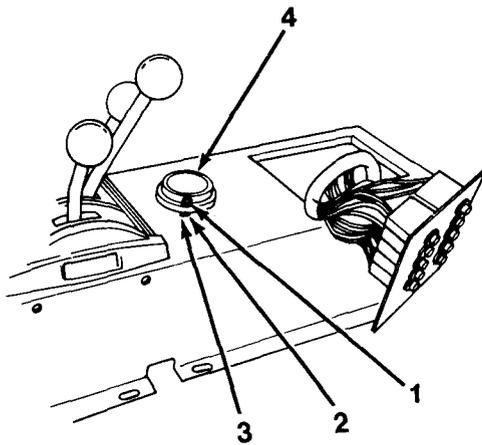

Figure 17-1
Remove three screws (1), lockwashers (2), six nuts (3) and bubble level (4, Figure 17-1).